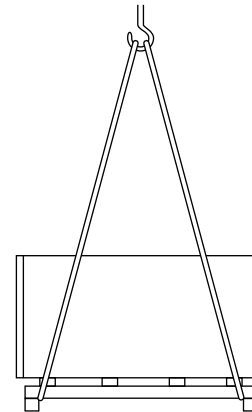

Fig. 17: Transporting pallets by crane
1. Attach ropes, straps or multi-point hangers to the pallet as shown in Fig. 17.